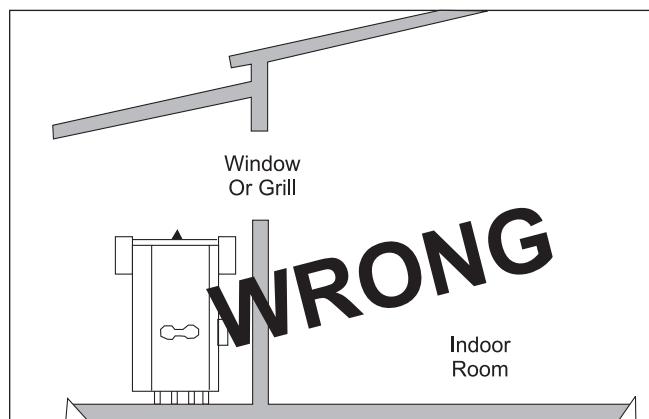

Figure 7. Incorrect Outdoor Installation.
3. Never install the heater under any kind of roof overhang. Do not place the heater below or adjacent to any doors, windows, louvers, grills, etc., which connect in any way with an inhabited area of a building. This includes other structures such as garages or utility rooms (see Figure 7).